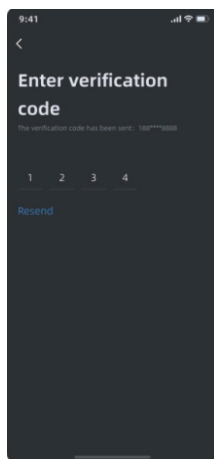

Figure 5
5) Figure 5: After entering the verification code, enter the password setting page.